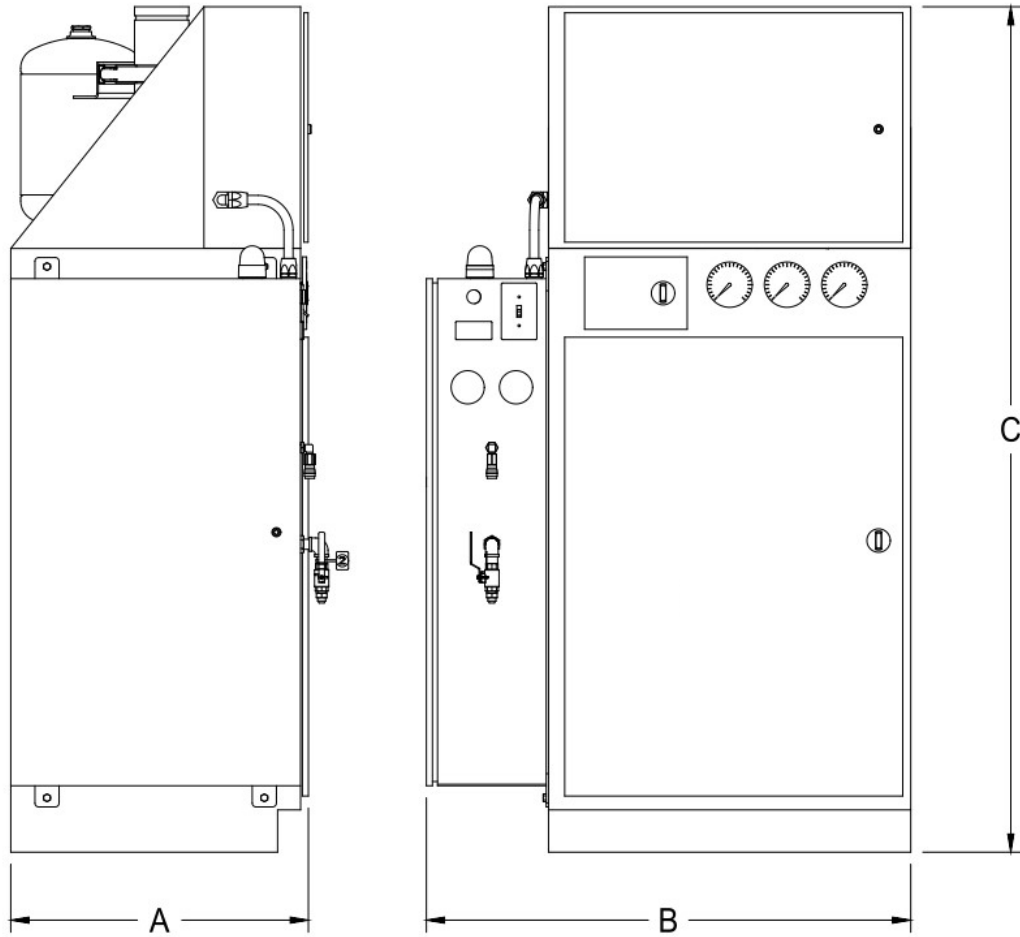

Figure 2 - Assembly Dimensions (Control Panel option shown)
3.1 Assembly Dimensions. Refer to Figure 2 and Table 5.